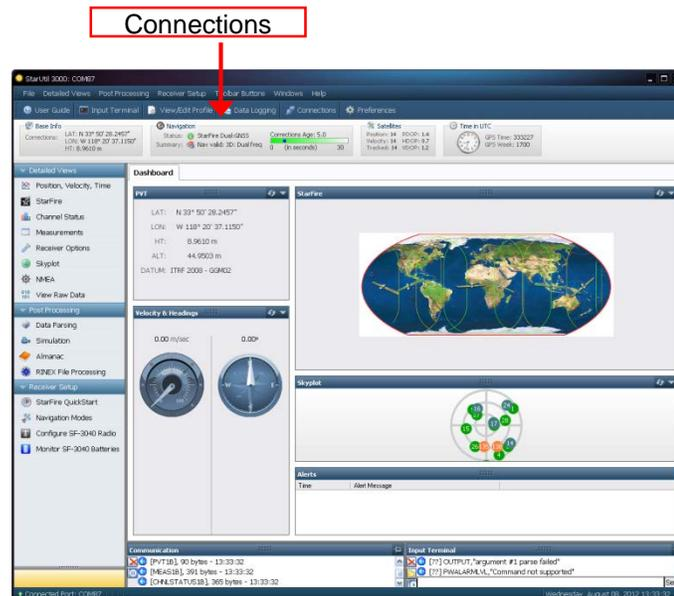
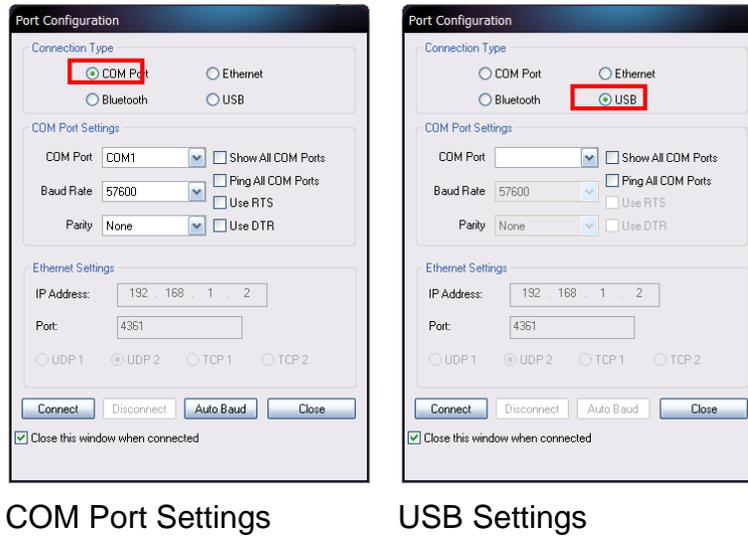

Figure 3: StarUtil 3000 – Main Window
Figure 4: Port Configuration
- Click the *Connections* button to establish communications between the PC and the SF-3050 (see Figure 3). The *Port Configuration* dialog box opens (see Figure 4). Refer to Figure 4 for the steps below: